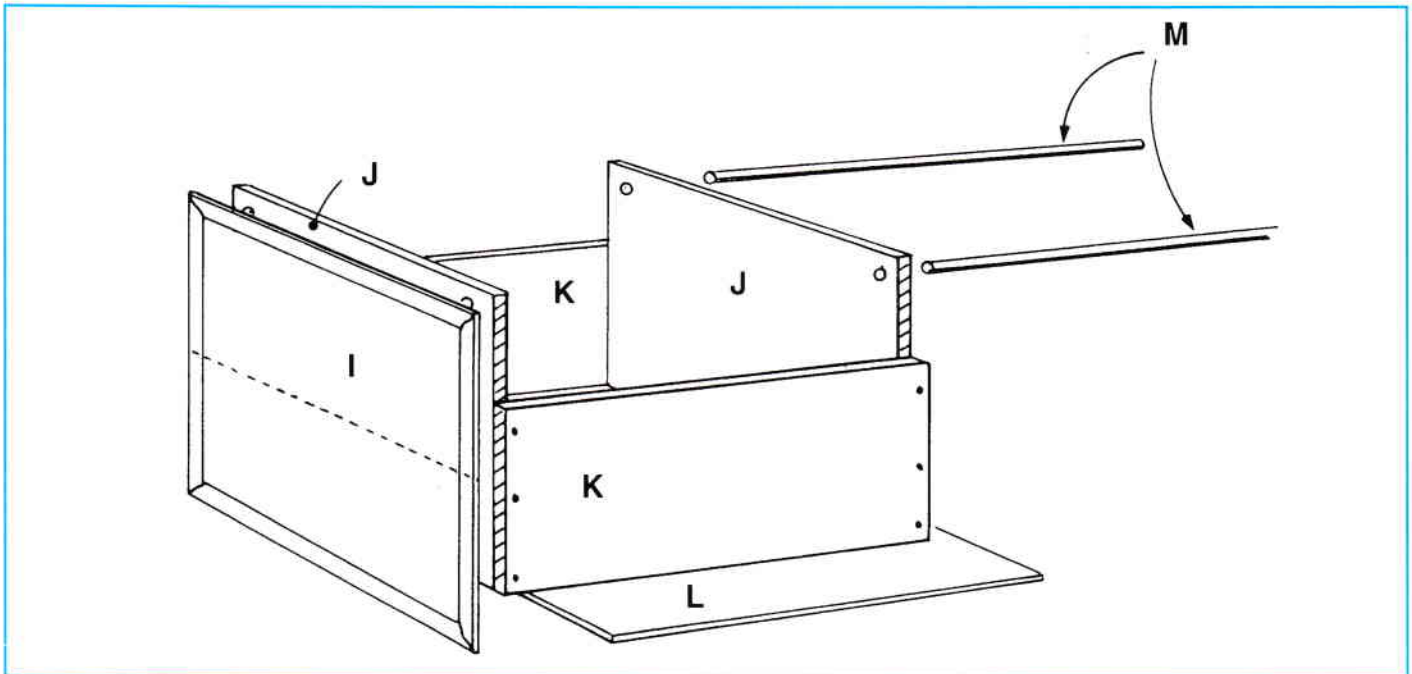

FIGURE 10
**(Figure 10)** Square the drawers by nailing on the 3 ply bottoms (**L**), using glue and 12mm panel pins or brads. Set the drawers aside to dry, clamping or weighting if necessary to avoid twisting.